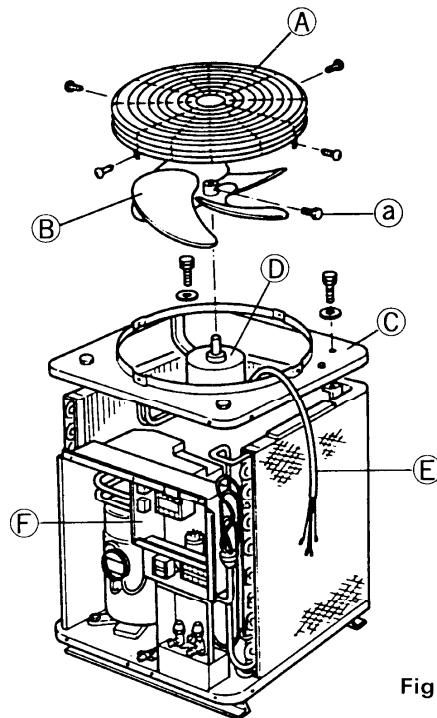

Fig. 18
- 2) Disconnect the fan motor wires **(E)** from the electrical component box **(F)** and then, remove the top cover **(C)** with fan motor. Fig. 18